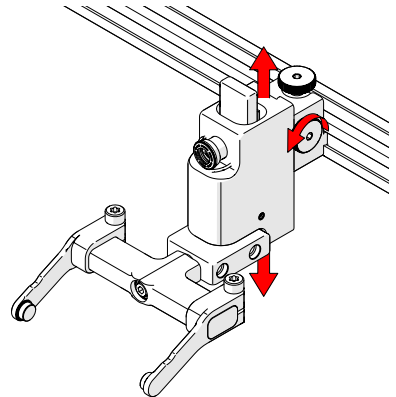

Fig. 129 - Vertical adjustment
2. The vertical adjustment knob (*Fig. 129*) allows height adjustment of the heavy duty vertical probe holder. This adjustment also controls the probe holder's spring force.